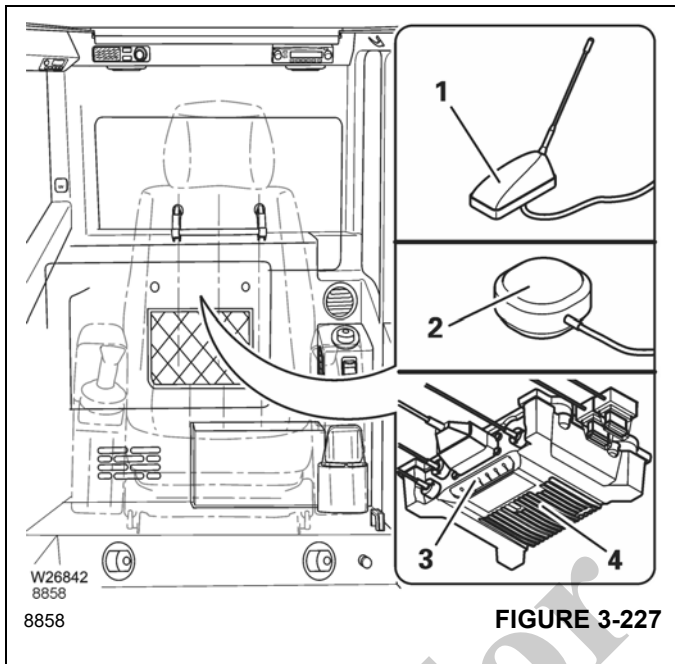

FIGURE 3-227
The satellite antenna (1), (Figure 3-227) is located on the rear right or left of the turntable.